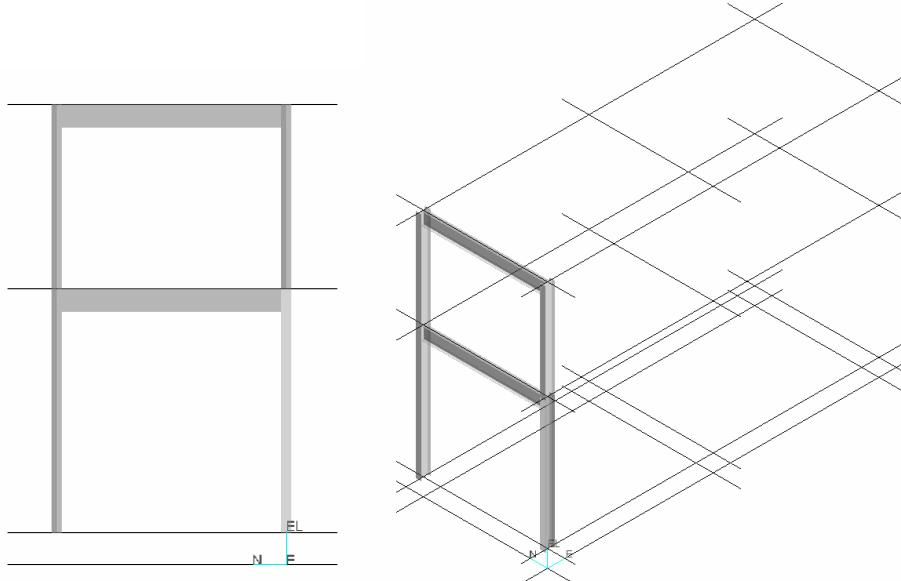

Figure 1 – Elevation and Isometric View of the Structure Unit 2 System
- 3 Select the place linear member system command. Use the views shown in figure 1 to place the appropriate support columns and beams.